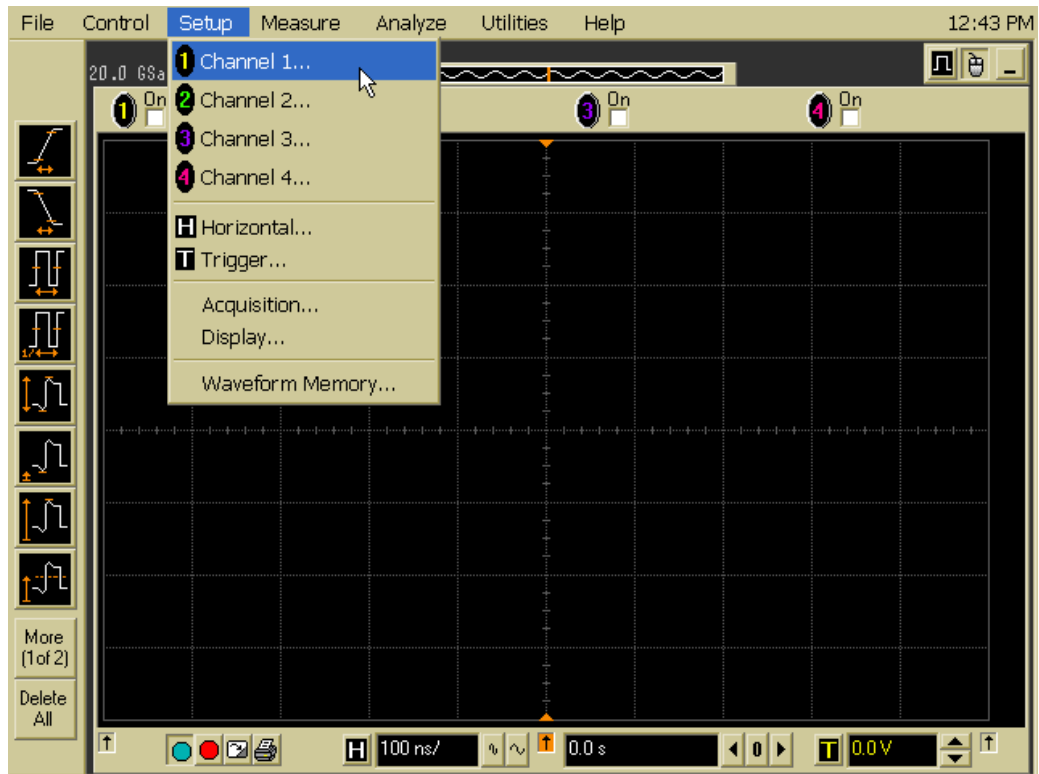

Figure 17 Channel Setup Window.
- 1 On the Infiniium oscilloscope in the Setup menu, select the channel connected to the probe, as shown in Figure 17.